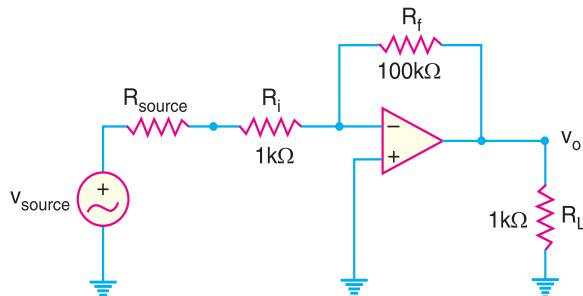

Fig. 25.54
**Example 25.31.** Fig. 25.54 shows an inverting OP-amp. Find the closed-loop gain if (i)  $R_{source} = 0\Omega$  (ii)  $R_{source} = 1\text{k}\Omega$ .